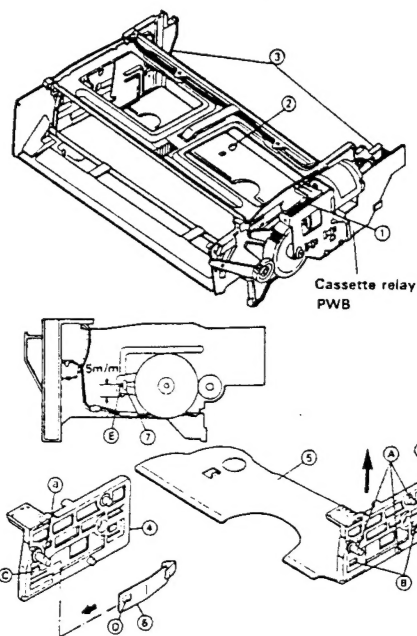

Figure 1-4.
• Disassembly (Fig. 1-4)
1. Turn the worm gear ① by hand counterclockwise until the cassette slider assembly ② reaches the bottom position.
2. Slightly extend the right and left frames ③ to allow the tabs ④ of the cassette slider assembly ② to go out of the holes of the right and left frames.
3. Pushing the tabs ③ of the slider holder (right) ④, pull the slider holder (right) out of the cassette slider ⑤.
4. Remove the lock release lever ⑥ from the slider holder (right).
• Reassembly (Fig. 1-4)
1. Put the lock release lever ⑥ to the slider holder (right) ④: check that the tab ③ of the slider holder (right) is surely engaged with the hole ① of the lock release lever.
2. Move the lock release lever so that it is positioned inside the tab of the cassette slider ⑤.
3. Extend the right and left frames and let the right and left tabs ④ of the cassette slider assembly be engaged with the grooves of the right and left frames.